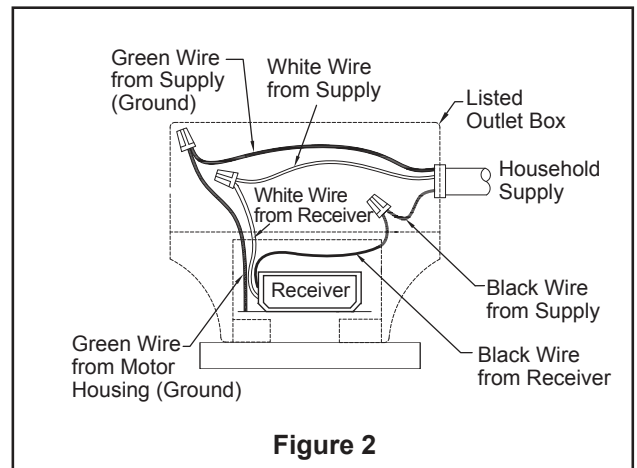

Figure 2
2. After connections have been made, the wires should be spread apart with the grounded conductor and the equipment-grounding conductor on one side of the outlet box and the ungrounded conductor on the other side of outlet box, then turn leads upward and carefully push leads into the outlet box, with the white and green leads to one side of the box and the black leads to the other side. (Figure 2)